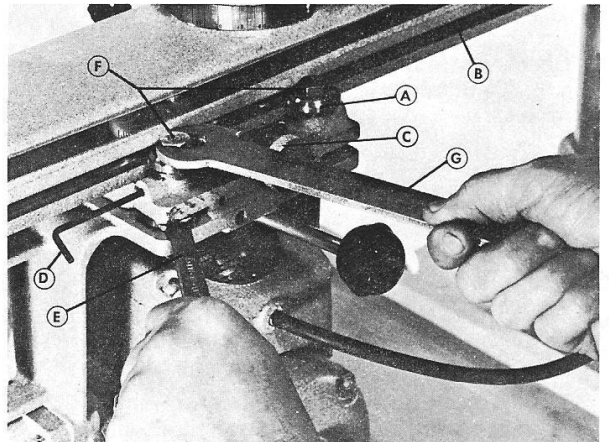

FIGURE 6
Check ball bearings against track for any "play" that might develop, see Fig. 6. The ball bearings (A) must ride smoothly and evenly in track (B) to do accurate work. The carriage is mounted on four (4) pre-loaded pre-lubricated, shielded ball bearings, two on fixed shafts (on saw blade side of track-arm) the other two on adjustable eccentric shafts. CAUTION! NEVER OIL TRACK.
2. Loosen rip lock (C) Fig. 6 and loosen set screws (D) on both front and rear bearings to release lock action on eccentric shafts (F).
3. Place wrench (E) on hex nut that locks shaft (F) and loosen (both front and rear bearings).
4. Place wrench (G) on eccentric shaft (F) and turn until all play is removed. Do same to rear bearing.
5. Re-tighten hex nuts with wrench (E) and lock set screws (D) at both bearings.